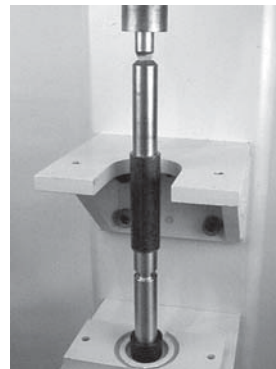

Figure 64
4. Using an arbor press or similar device, press bearing onto pulley shaft (**Figure 64**).